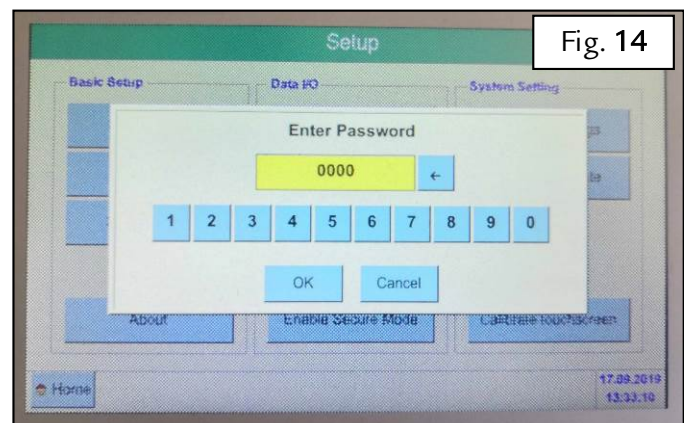

Fig. 14
- The system asks for a password to continue with the update. The default password is **0000** - Fig. 14.